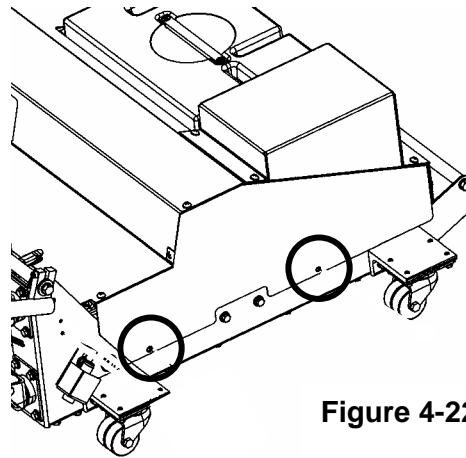

Figure 4-22
1. Remove the screws on each side of the hood, as shown in Figure 4-22, and lift the hood off the frame. Set aside the screws.